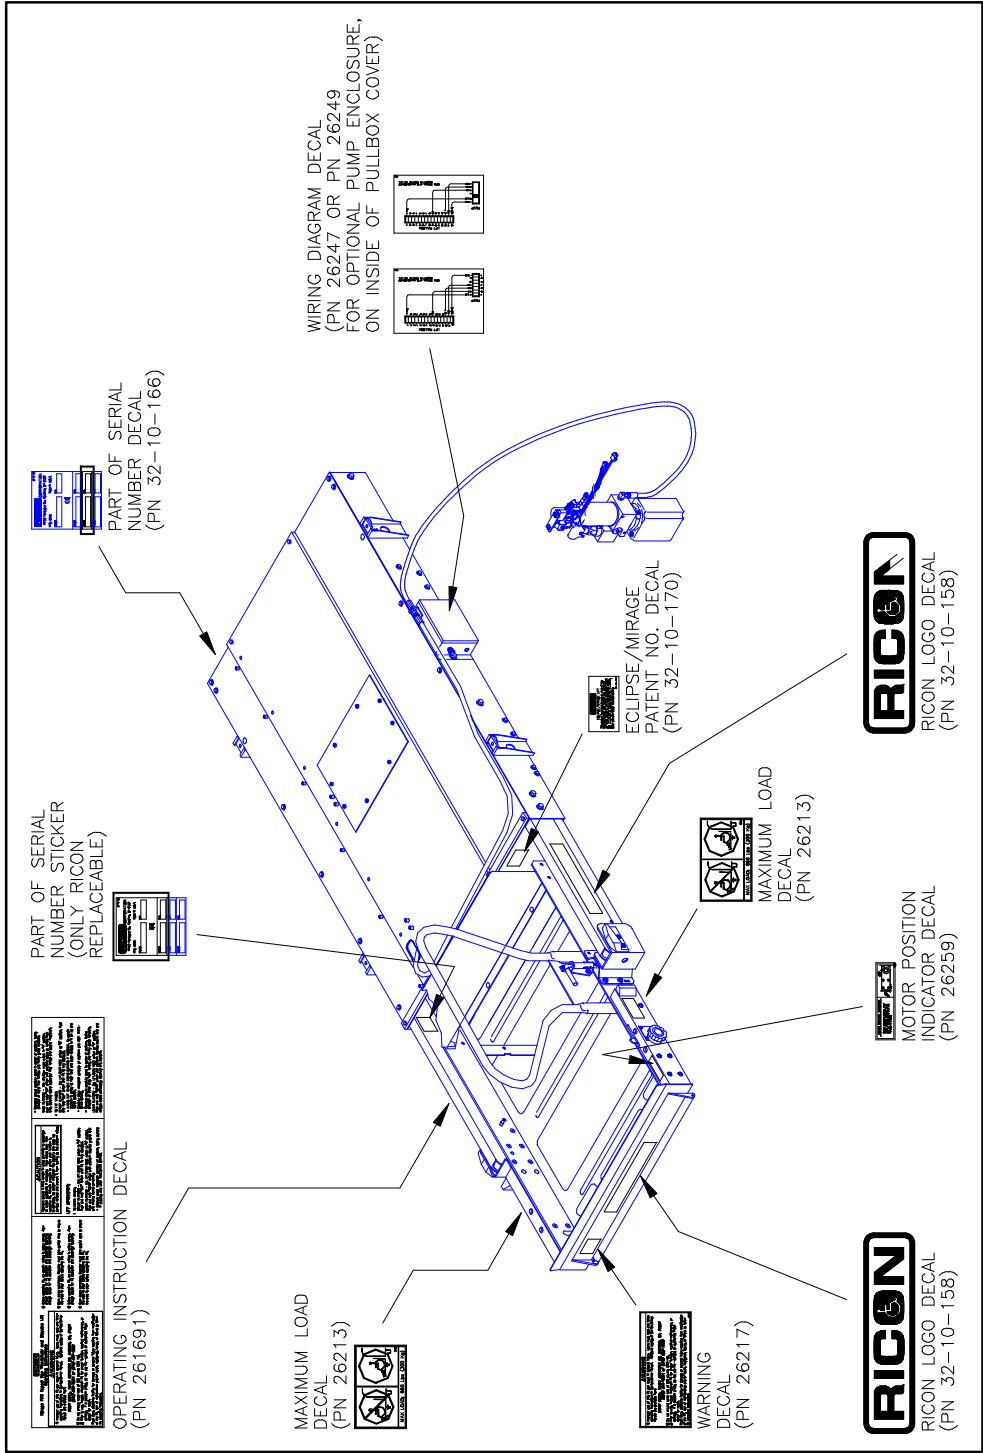

FIGURE 2-7: DECAL LOCATIONS AND PART NUMBERS
- Refer to **Figure 2-7** and verify that all decals are properly located and affixed as shown